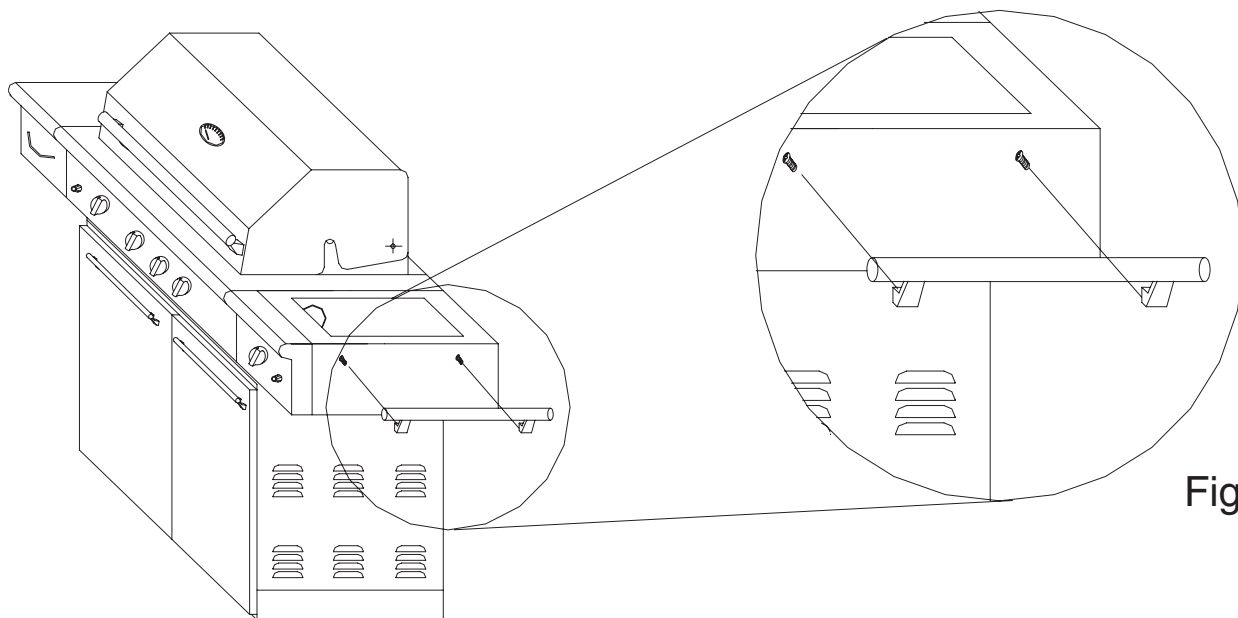

Fig. 4
2. Remove the two screws from the handle. Align with the holes in the side burner, then re-attach into the holes on the stand of the handle, and tighten up the screws. (See Fig. 4)